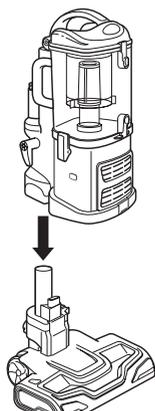

Fig. 8
- 2 Align the tube of the floor nozzle with the tube on the *Lift-Away* canister and lower until you hear the two pieces click into place. **(Fig. 8)**